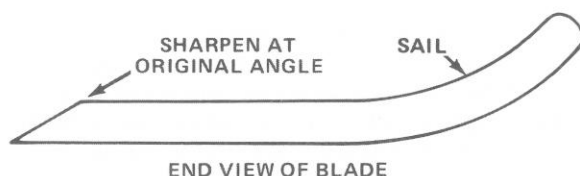

Figure 29
3. Inspect cutting edges of all blades. Sharpen the cutting edges if they are dull or nicked. Sharpen only the top side of the cutting edge and maintain the original cutting angle to make sure of sharpness (Fig. 29). The blade will remain balanced if same amount of metal is removed from both cutting edges.